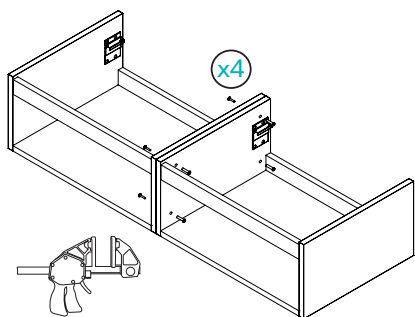

Fig. 1
4. Position both units next to each other so that they line up correctly, then secure them together with clamps. Drill four evenly spaced holes right through the carcass sides to be connected. To prevent any break-out when drilling, a sacrificial piece of wood can be secured over the exit location of the drill before drilling. Secure together with the connecting bolts provided (Fig. 1).